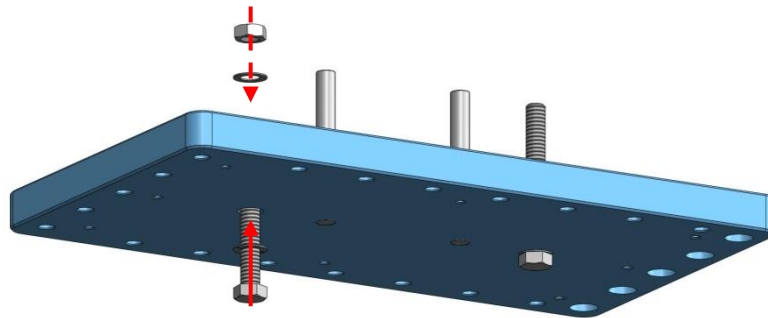

Figure 4.2. Clamp hex head screws to Wall, using silver-plated hex jam nut. Threaded portion should point in same direction as protruding dowel pins.
- Insert hex head cap screws, with washer on either side. Tighten to **Wall**, using **D0900204 silver-plated jam nuts** on each screw, as shown in Figure 4.2.